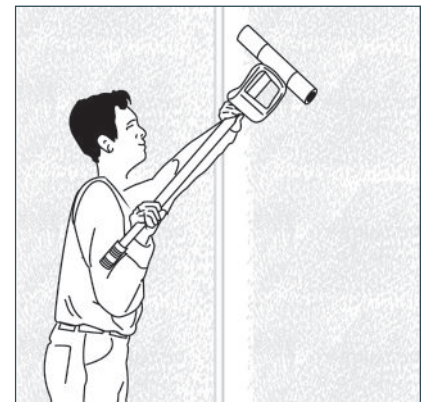

FIGURE 5
- Use a laminate roller to ensure all air pockets are removed between the panel and the wall and to ensure a good bond between the panel and the wall. Start in the top corner of the panel away from the leading edge. Begin rolling down and out towards the panel edge without a molding. (Figure 5)
3. Use a laminate roller to ensure all air pockets are removed between the panel and the wall and to ensure a good bond between the panel and the wall. Start in the top corner of the panel away from the leading edge. Begin rolling down and out towards the leading panel edge. (Figure 5)